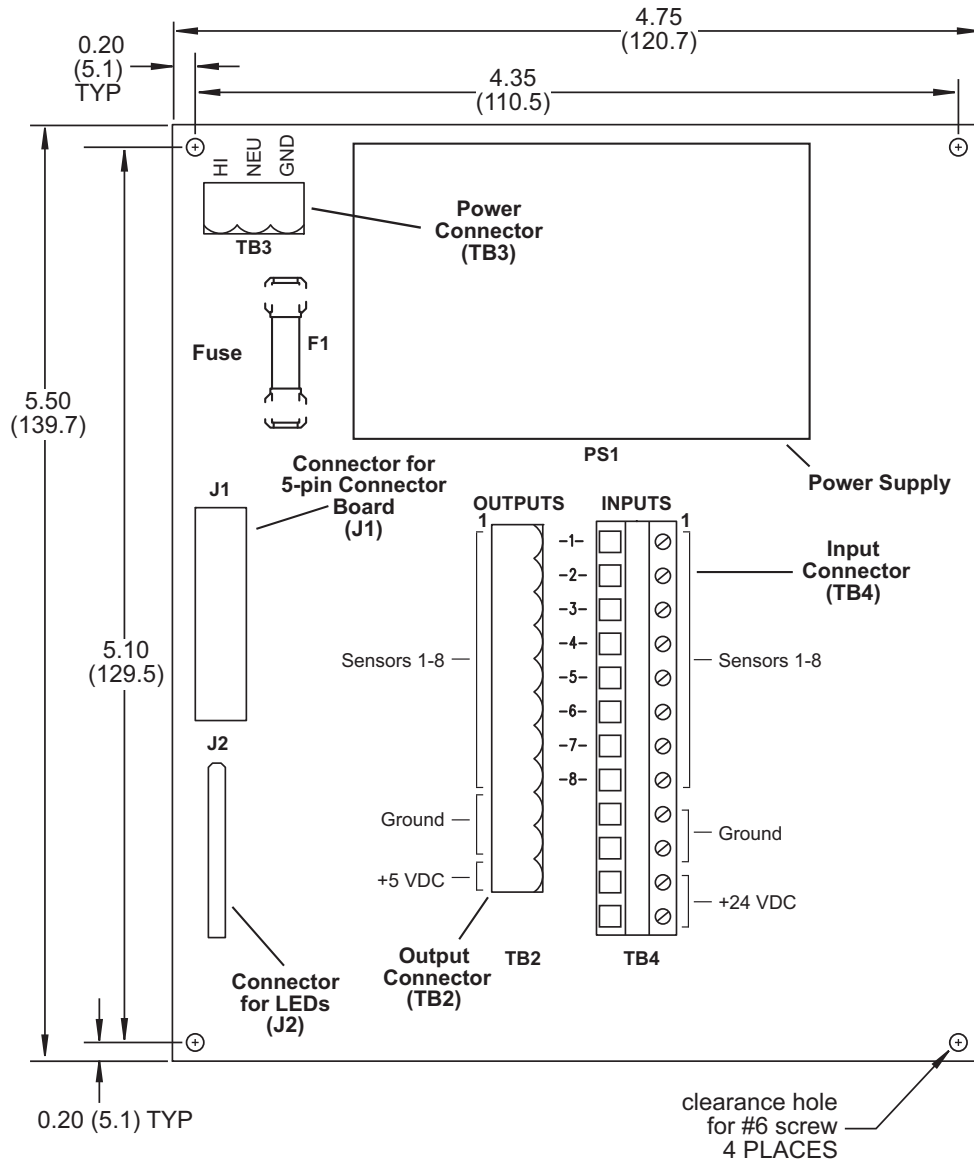

Figure 2-4. DSI 2 PC Board: Mounting Dimensions
2. Mount the board, using the four (4) standoffs provided, referring to Figure 2-4 for mounting dimensions. Standoffs are 6-32 and 5/16 in. long. Recommended screw size is 6-32 x 3/8 in.